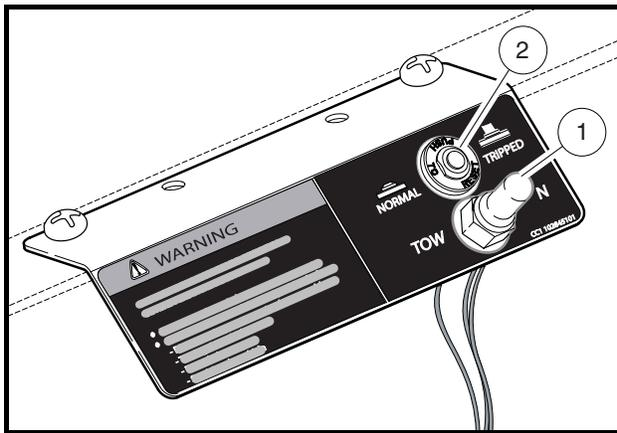

Figure 9 Tow/Run Switch – IQ Plus
Electric vehicles are equipped with a Tow/Run switch (1), located on the seat support panel under the seat (**Figure 9**). The switch must be in the RUN position in order to operate the vehicle. When the switch is in the TOW position, power to the vehicle electrical components is turned off and the vehicle will not operate. See following **NOTE**.
IQ Plus vehicles are equipped with a circuit breaker (2), located next to the Tow/Run switch (**Figure 9**). If the circuit breaker has been tripped, a series of rapid beeps will sound and vehicle speed will slow to approximately one-half of its top programmed speed. In the event of a tripped circuit breaker, bring the vehicle to a complete stop, remove seat, and push the breaker to reset. If the circuit breaker trips again when vehicle operation is resumed, contact a local Club Car distributor/dealer.